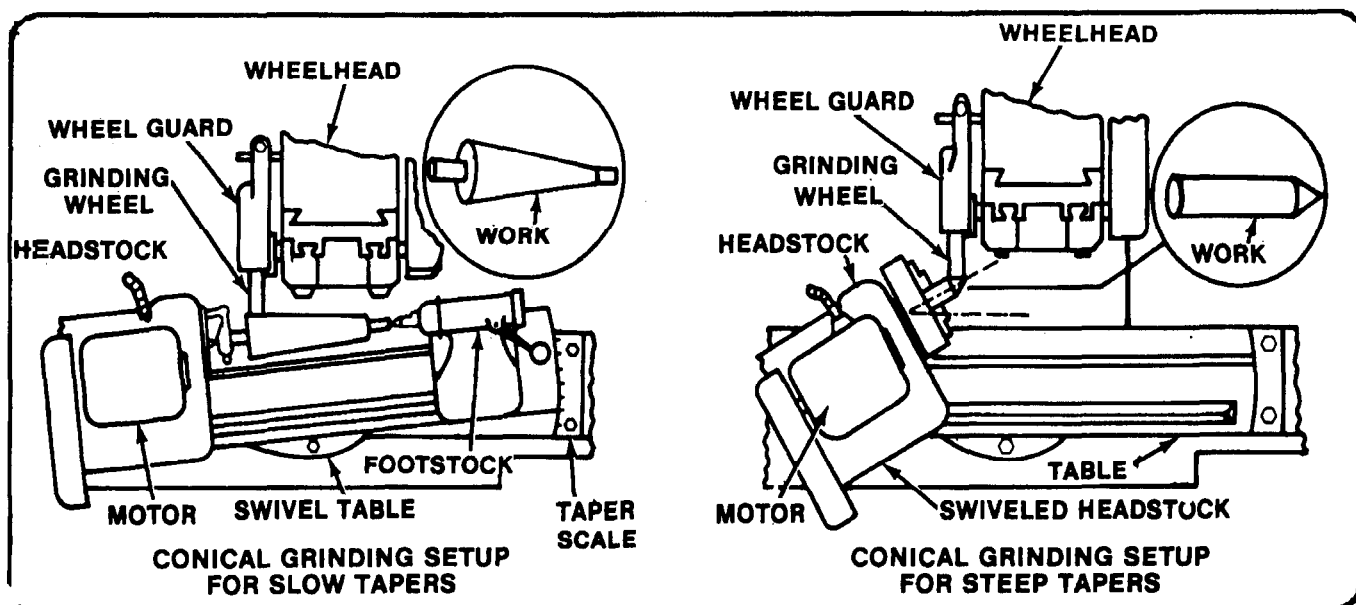

Figure 5-15. Conical grinding setups.
- The table is swiveled to the required taper by means of the graduations on the end of the table (Figure 5-15).
- Since the table on a universal grinder is limited as to the degree that it can be swiveled, steep conical tapers are normally ground by swiveling the headstock to the angle of the taper desired (Figure 5-15).